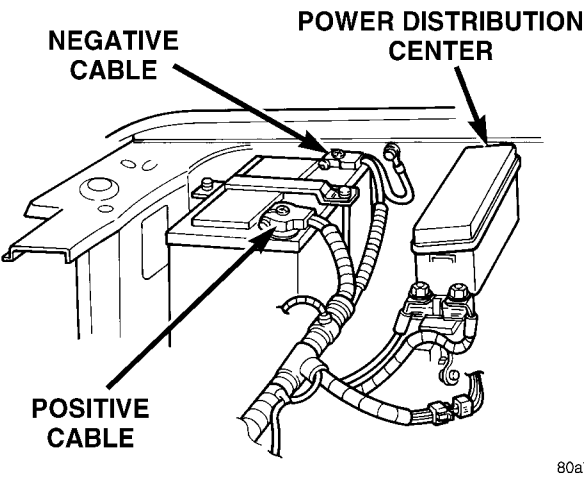

Fig. 21 Battery Cables
(11) Position the battery in the tray. Ensure that the positive and negative terminal posts are correctly positioned. The cable terminal clamps must reach the correct battery post without stretching the cables (Fig. 21).
(12) Reinstall the battery thermoguard by sliding it over the battery case.